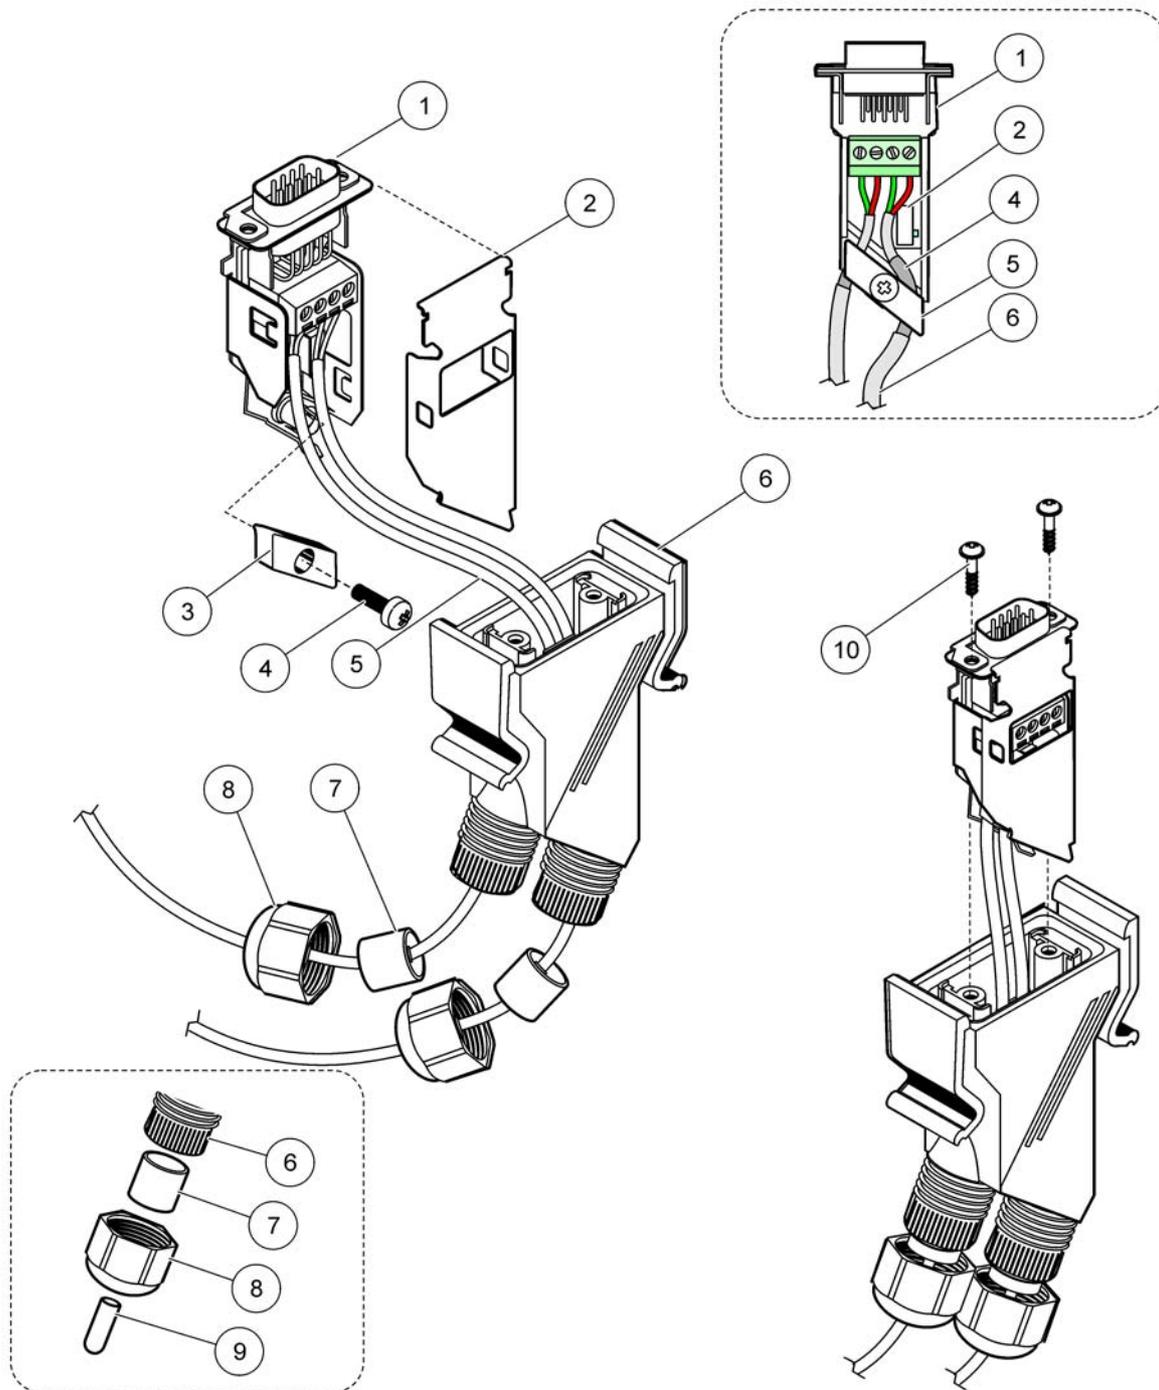

Figure 32 Connecting the network connector to the sc1000 network terminating resistor
2. Feed the cable through the union nut, rubber seal, and connector housing (Figure 32).
Note: When using the connector with the last module on the network segment, one union nut remains unused. Seal the union nut with the plug supplied. Refer to Figure 32.
² Use this plug if the cord grip is not used, refer to inset in Figure 32.